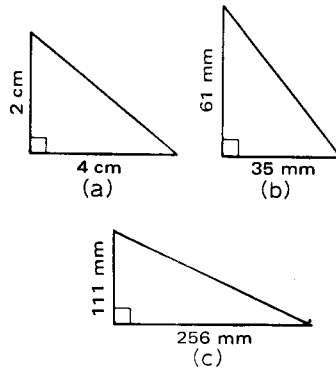

Fig. 1.84
6. Find the length of the hypotenuse for each of the right-angled triangles shown in Fig. 1.84.